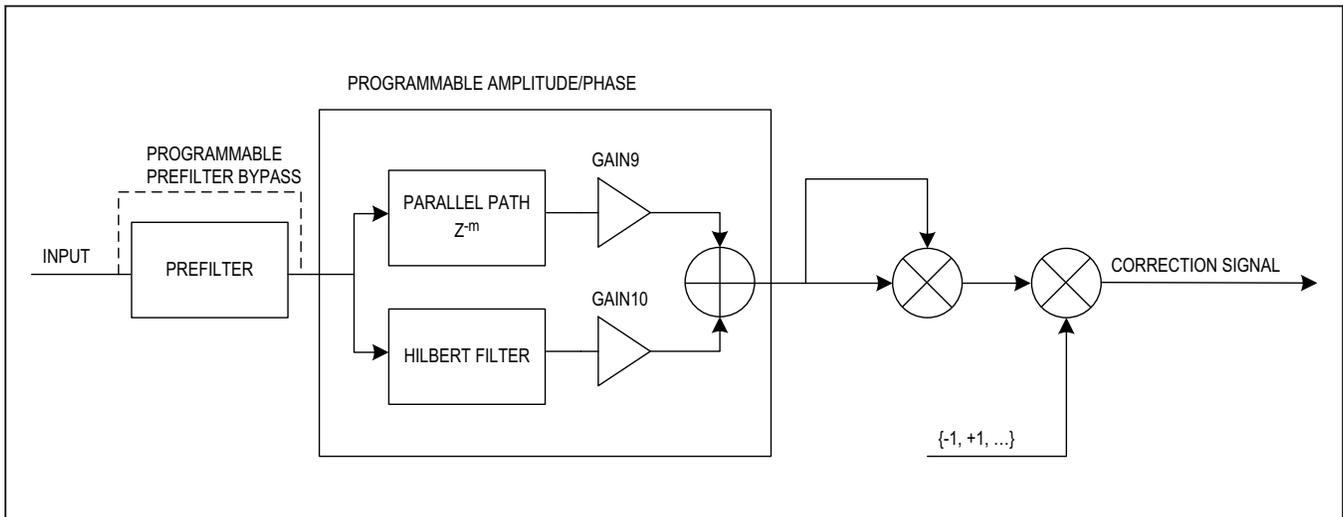

Figure 24. $f_{DAC}/2 - 2f_{OUT}$ DAC DPD
- $f_{DAC/2} - 2f_{OUT}$ DPD: This block allows for the correction of $f_{DAC/2} - 2f_{OUT}$ spur. The block diagram of this section is shown in Figure 24.
The $f_{DAC}/2 - 2f_{OUT}$ DPD block (Figure 24) includes a bypassable pre-filter with a nonlinear phase response that approximates the characteristics of the MAX5861’s RF